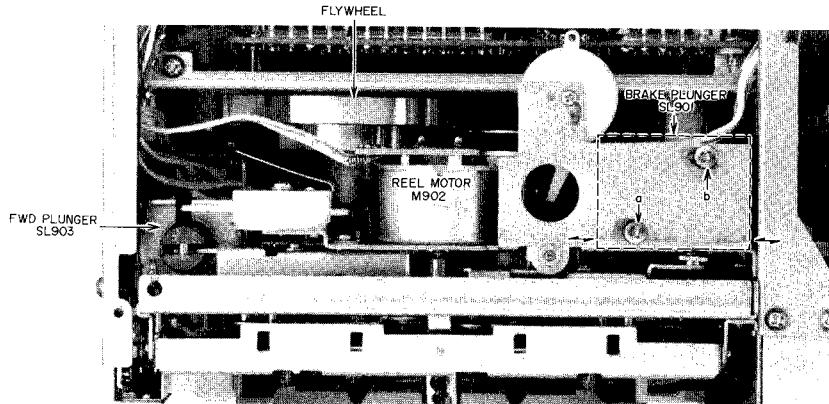

Fig. 7
- 2) Brake Plunger Adjustment (Refer to Figs. 7, 8)